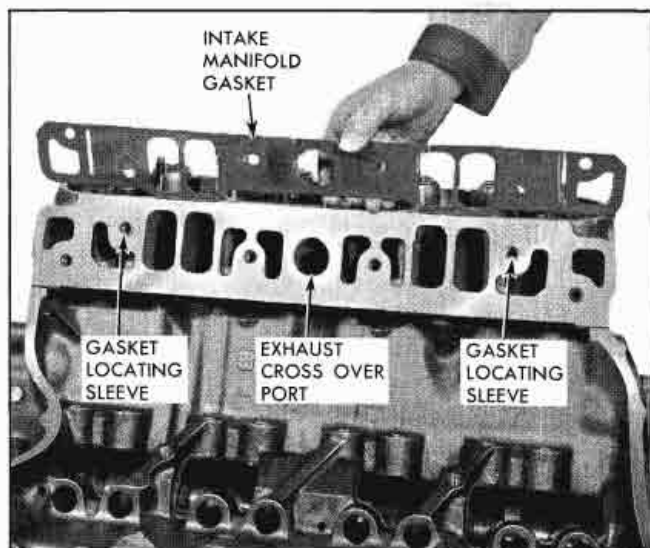

Fig. 6-21 Installing Intake Manifold Gasket
1. Install new gaskets on cylinder heads, positioning them over locating sleeves (Fig. 6-21).